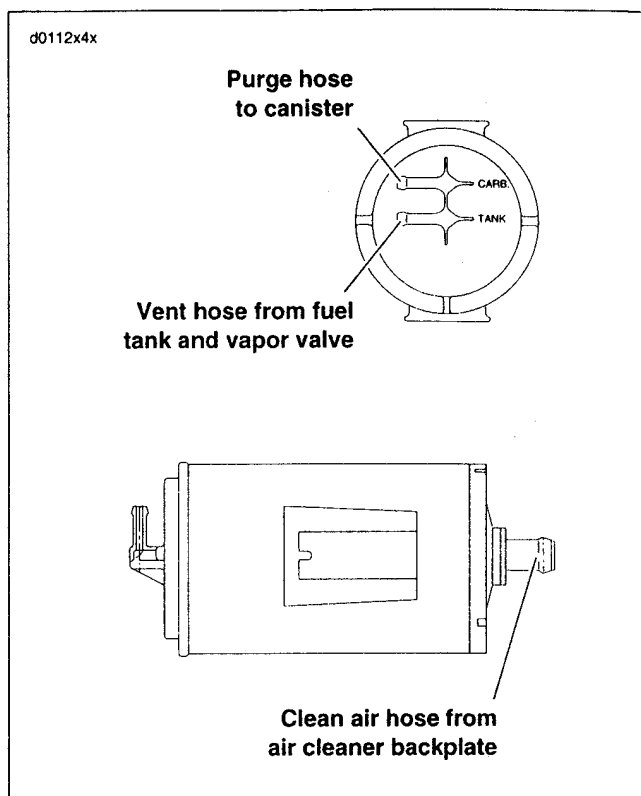

Figure 4-19. Charcoal Canister Connections
3. See Figure 4-19. Note the two hose connections on the left side of the canister. To ensure correct assembly, label each hose to match the stamps on the canister before disconnecting.
2. See Figure 4-19. Attach hoses to canister nipples as marked.
- c. See Figure 4-19. Attach the purge hose to the canister fitting marked "carb" on the left side of the canister.
- b. Attach lower fuel tank vent hose to the bottom fitting on the vapor valve. Route fuel tank vent hose along frame (cable tie loosely to frame) to canister fitting marked "tank" on the left side of the canister. See Figure 4-19.